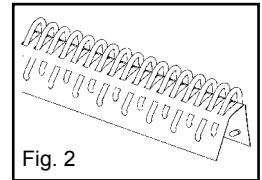

Fig. 2
2. Removed after installation (see Fig. 2). Hook sizes 30, 4-1/2 round, 5, 6 and 7.